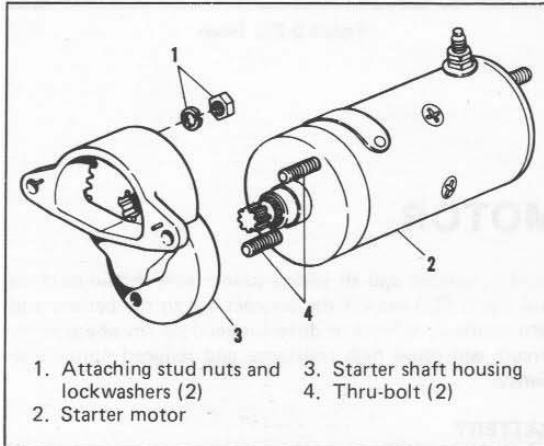

Figure 5-26. Removing Starter Motor
Disconnect solenoid cable from starter motor terminal. Remove attaching nuts and lockwashers (1, figure 5-26) which fasten starter motor housing (3) to studs on chain housing. Remove starter motor end support plate (not shown) from transmission. It may be necessary to loosen and raise battery carrier to provide clearance. Remove